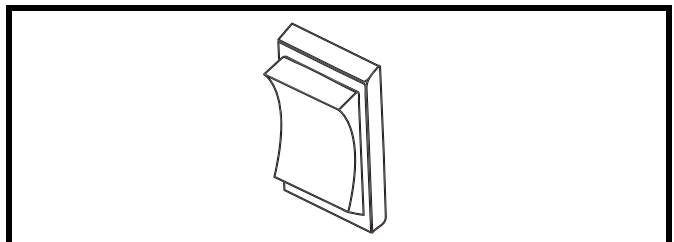

Figure 15. Power Seat Switch (With No Markings)-Activates The Power Seat Actuator
1. To raise the power seat, press and hold the upper part of the switch. Release the switch when you have attained your desired height or upon reaching the highest position. See figure 15.